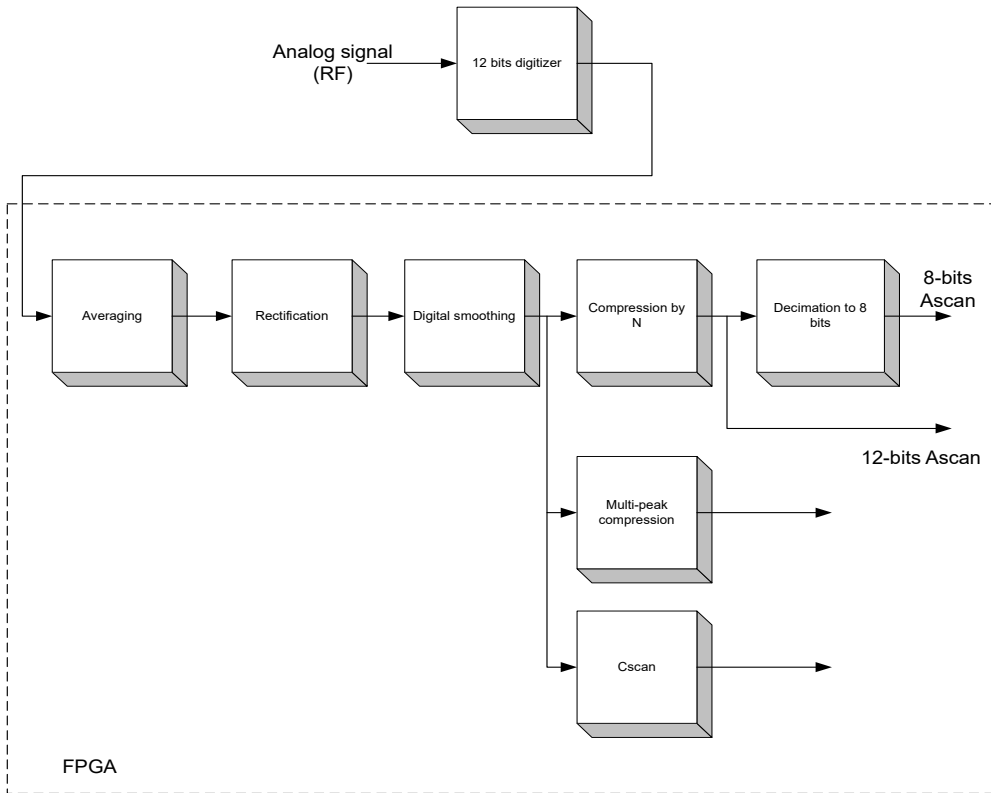

Figure 6-2 Digital processing
- Once the digitizing completed, the signal is processed by the field-programmable gate array (FPGA). Figure 6-2 shows the principal processes.